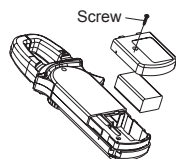

Figure 10
- If the reading is positive, the current direction is from bottom to up. See figure 10, the front case face up while the bottom case face down. Hold the Meter tight, do not release suddenly. The built-in Hall components are very sensitive not only to the magnet but also to heat and machines reaction force. Any shock will cause the changing in reading in the short time. Following the below procedure to measure AC current will obtain a more precise reading:
**B. Replacing the Battery** (See Figure 10)**Warning**